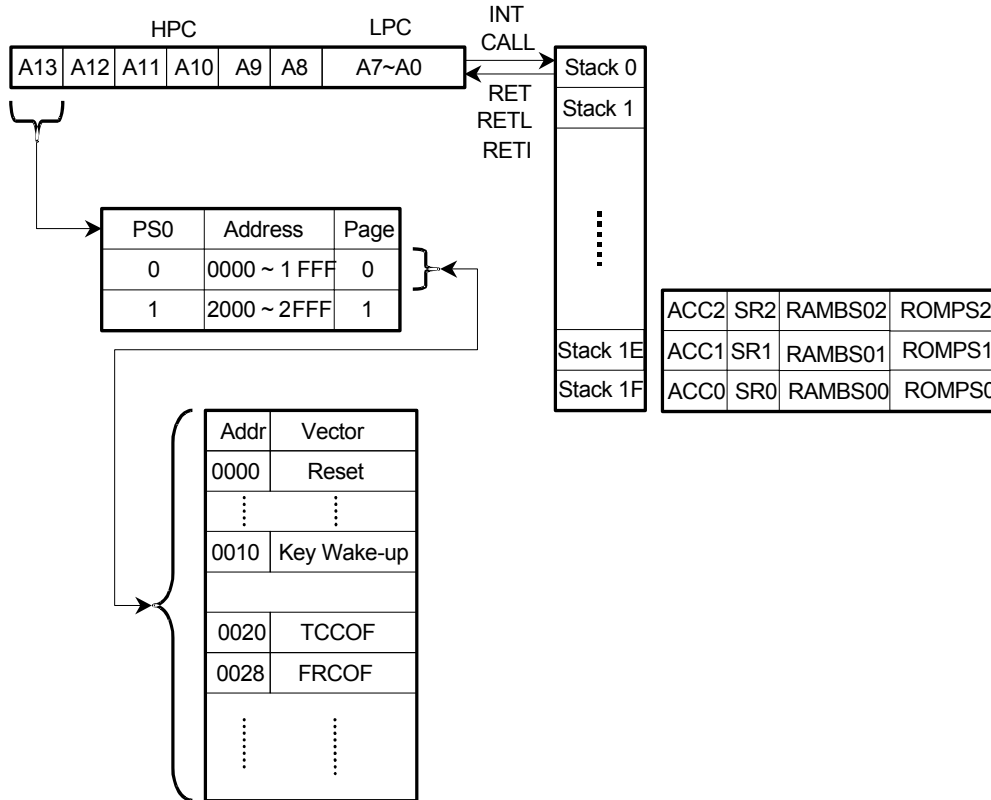

Fig. 6-1 Configuration of Program Memory (ROM) for EM77950
The EM77950 has a 14-bit program counter (PC). The space of program memory, which is partitioned into 2 pages can address up to 12K. One page has 8K in length, and the other is 4K. Fig. 6-1 depicts the profile of the program memory and stack. The initial address is 0x0000. The table of interrupt-vectors starts from 0x10 to 0x80 with every other eight-address space.